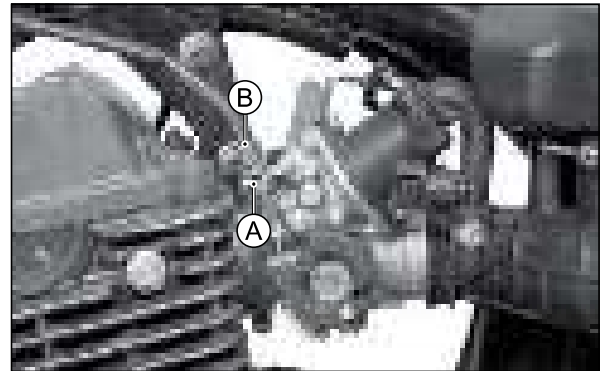

Fig. 4.35
- Fully loosen the throttle cable lock nut (A) while holding the adjuster (B). (Fig. 4.35)